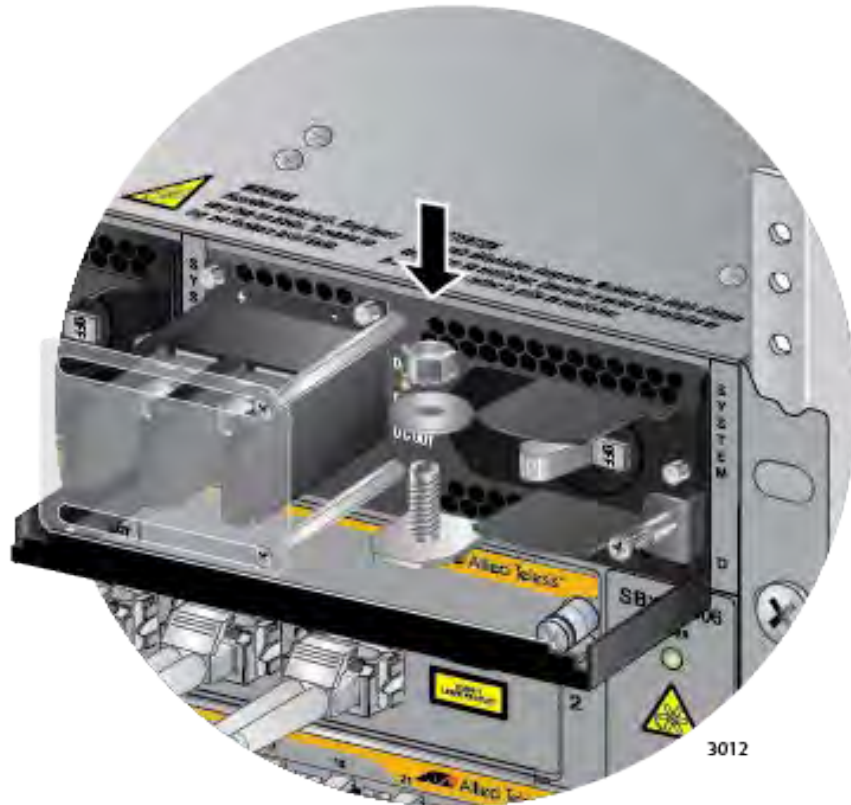

Figure 171. Reinstalling the Nut and Washer on the Grounding Post
10. Reinstall the nut and washer on the grounding post. Refer to Figure 171 on page 274.